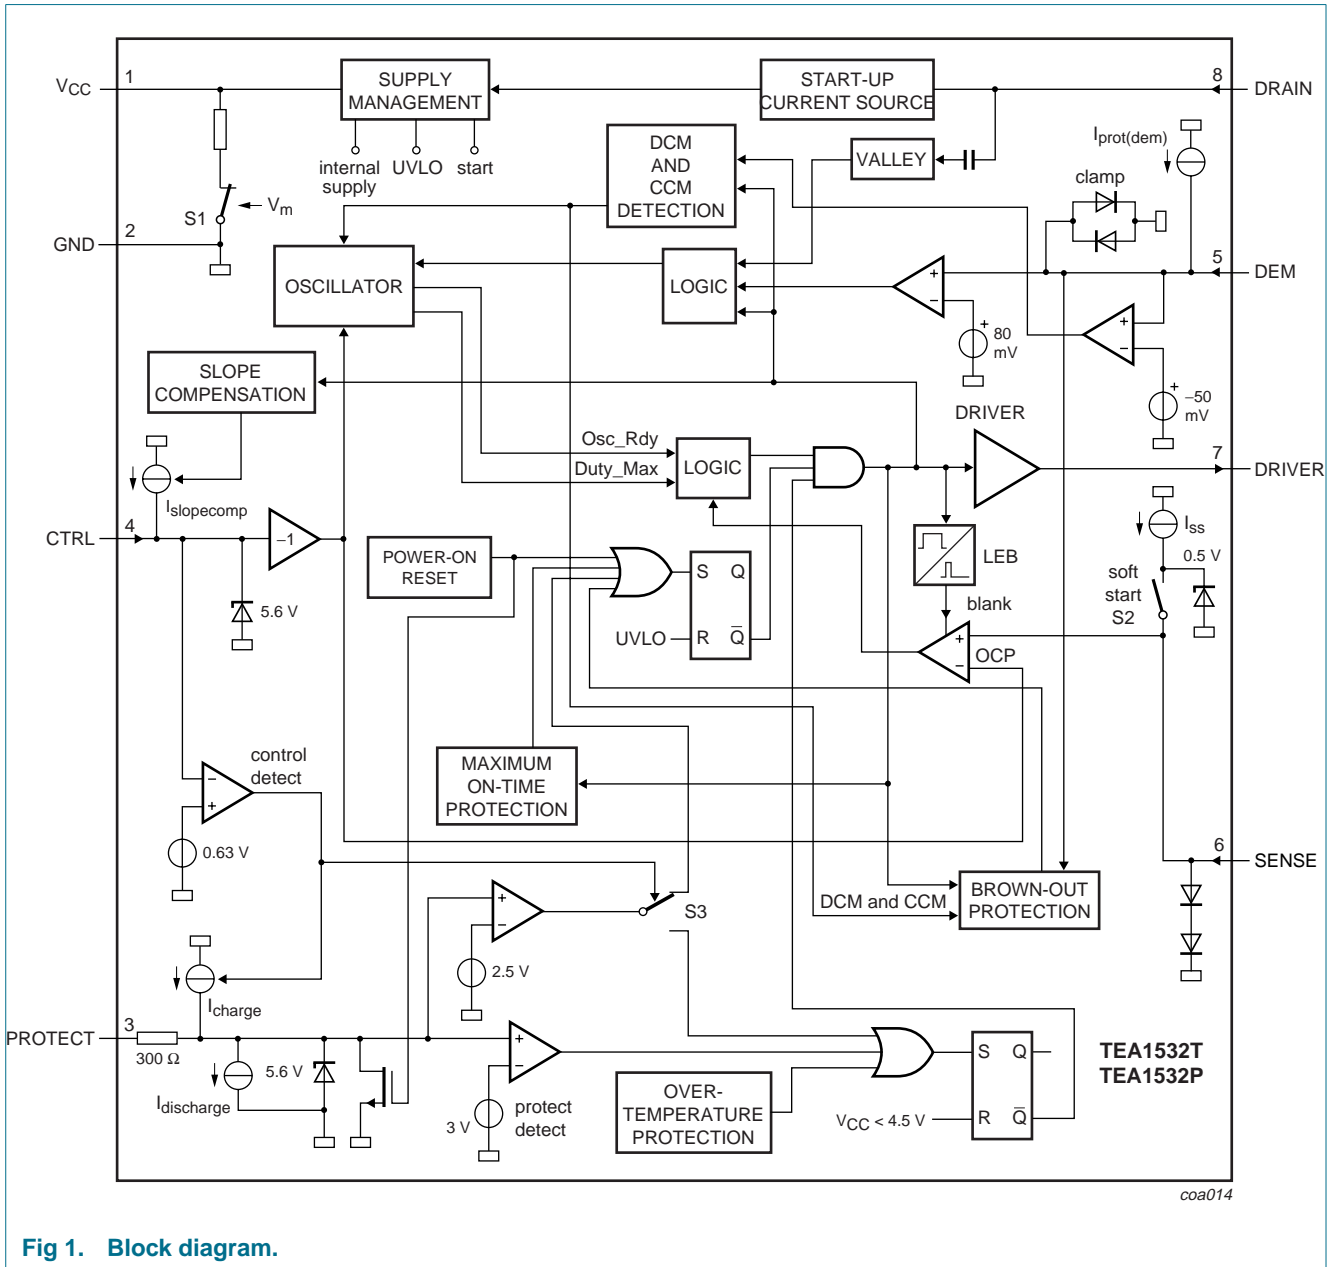

Fig 1. Block diagram.
Refer to Figure 10 and Figure 11. Initially, the IC is self supplying from the rectified mains voltage via pin DRAIN. Supply capacitor  $C_{VCC}$  (at pin 1) is charged by the internal start-up current source to a level of about 4 V or higher, depending on the drain voltage. Once the drain voltage exceeds the  $V_m$  (mains-dependent operation-enabling level), the start-up current source will continue charging capacitor  $C_{VCC}$  (switch S1 will be opened); see Figure 1. The IC will activate the power converter as soon as the voltage on pin  $V_{CC}$  passes the  $V_{start}$  level. The IC supply is taken over by the auxiliary winding as soon as the output voltage reaches its intended level and the IC supply from the mains voltage is subsequently stopped for high efficiency operation (green function).
- When the voltage on pin CTRL is above 0.63 V, the IC is assumed to be in regulation. In this case activating pin PROTECT ( $V_{\text{PROTECT}} > 2.5 \text{ V}$ ), by external means, will latch the IC: The voltage on pin  $V_{\text{CC}}$  will cycle between  $V_{\text{start}}$  and  $V_{\text{UVLO}}$ , but the IC will not start switching again until the latch function is reset. The latch is reset as soon as  $V_{\text{CC}}$  drops below 4.5 V (typical value). The internal overtemperature protection will also trigger this latch; see also Figure 1.